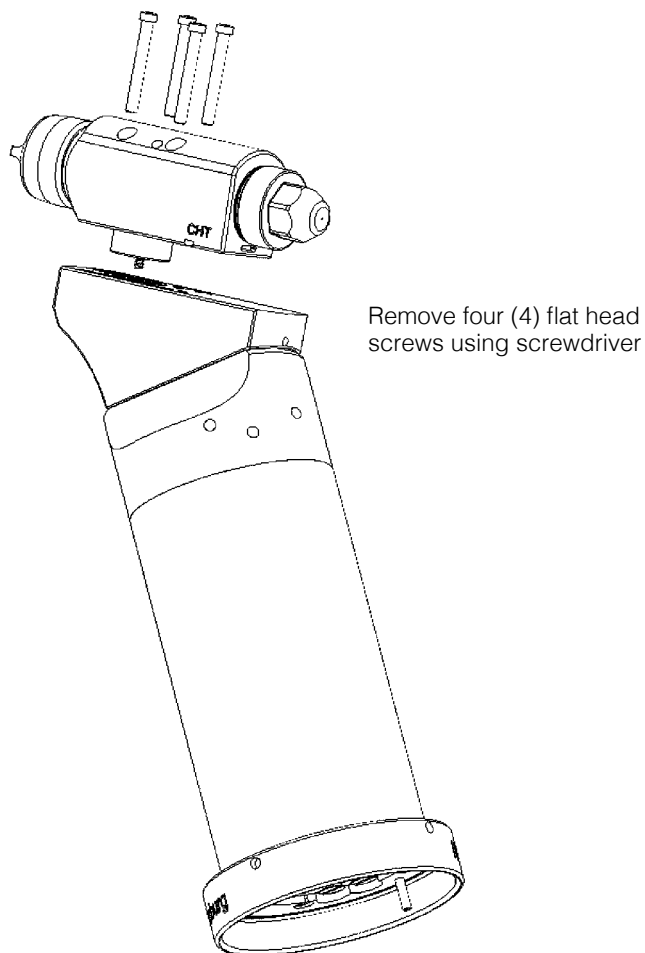
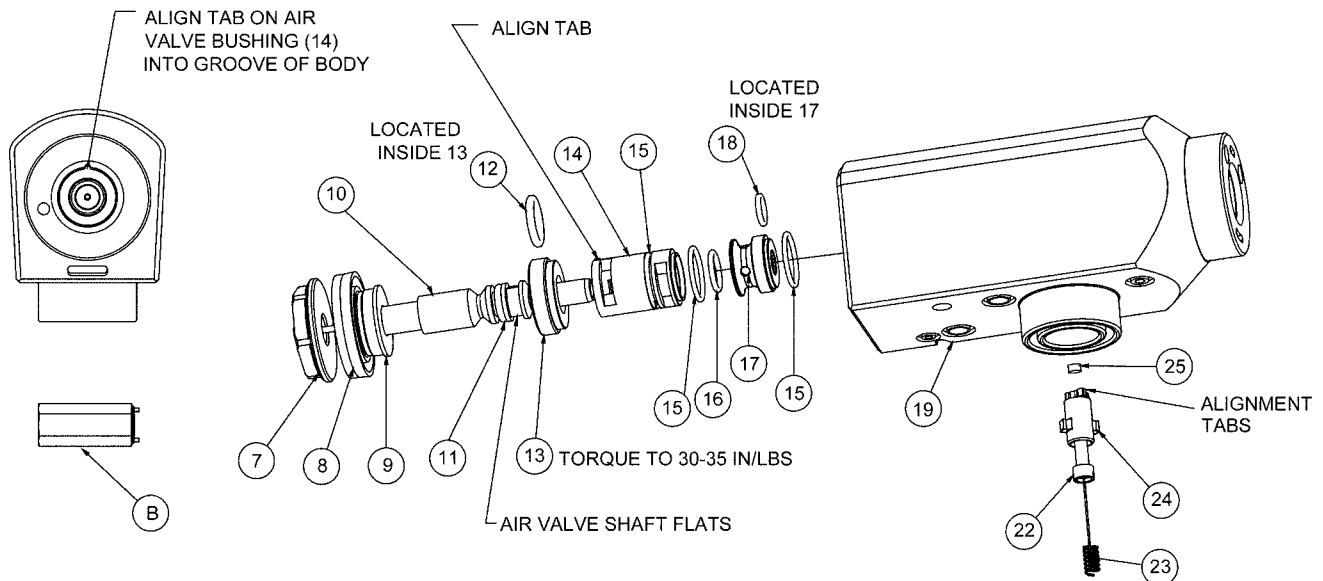
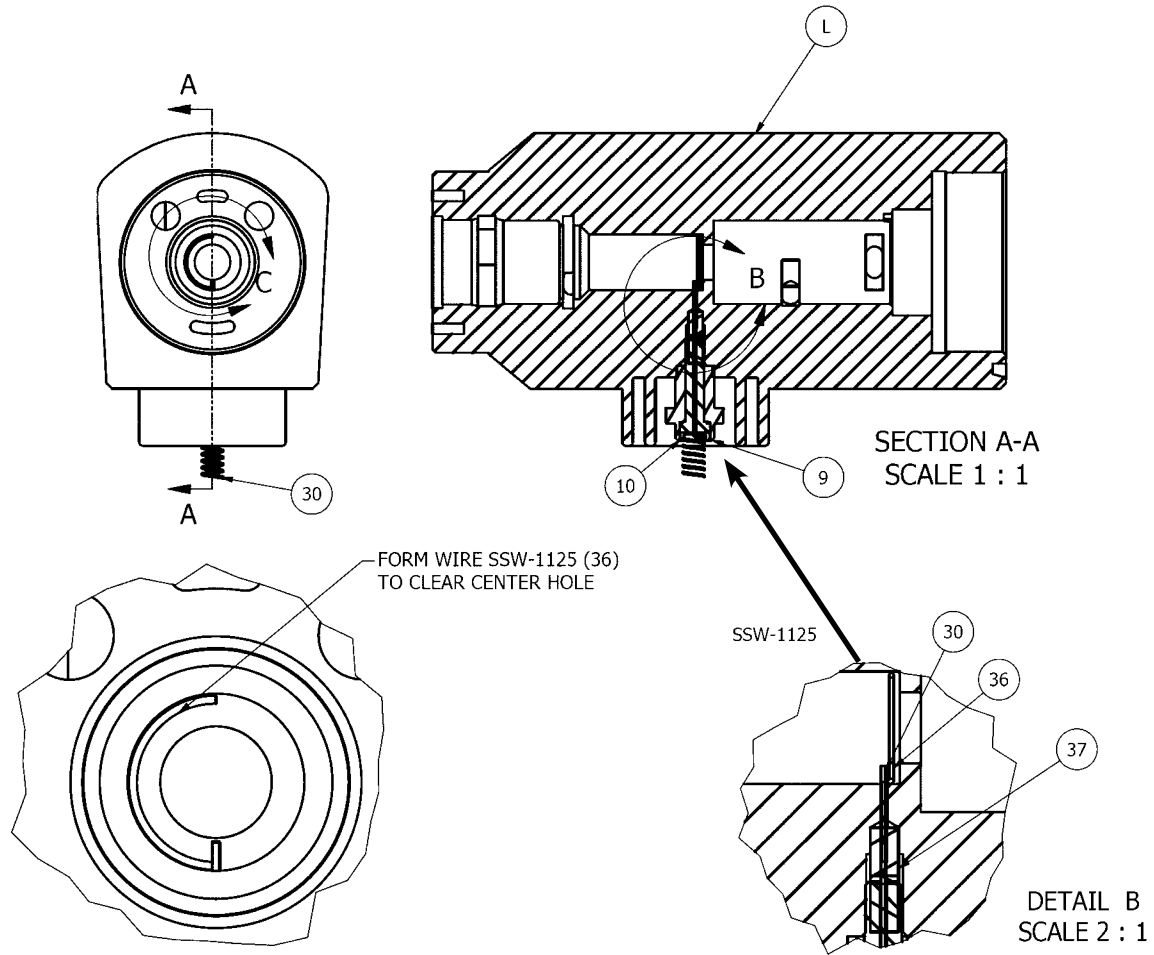

Figure 13a: Spray Head Removal
Figure 14: 79138 Evolver 500 Series Dual Purge Applicator Head Assembly
Figure 15: Head Sub-Assembly
Applicator Cleaning/Service (See Figures 13a and 13b)
The spray head can be removed from assembly as shown in **Figure 13a** for cleaning and service.
- At assembly, apply a small amount of dielectric grease to grooves in spray head and valve manifold to reduce high voltage breakdown. Excessive grease will not allow spray head [5] to seat fully against mounting block assembly [3] (see Figure 15).
Rear Needle Replacement (See Figures 13a, 13b, 14, and 15)
15. Re-attach spray head to manifold block by engaging the connection plug [24] (Figure 14) into the mounting block cavity [3] (Figure 15), and turn clockwise until head contacts stop pin on the block, as shown in Figure 13a.
16. Secure with locking tab by turning screw counter-clockwise (see Figure 13a).
Air Valve Removal (See Figure 14)
6. O-rings [12] and [18] must be installed inside their mating parts (**see Figure 14**).
8. Reassemble the remaining parts as shown in Figure 14 making sure that the alignment tab on the bushing [14] lines up with the align groove in the body [19].
(See Figure 15)
3. Using a needle-nosed pliers or similar, form the wire to the inside wall of the head, making sure it clears the center hole, as shown in Figure 15
5. Assemble connection plug (9) into spray head and fasten securely with screw (10)
80432 EVOLVER 500 SERIES DUAL PURGE APPLICATOR HEAD ASSEMBLY - PARTS LIST (Figure 14)